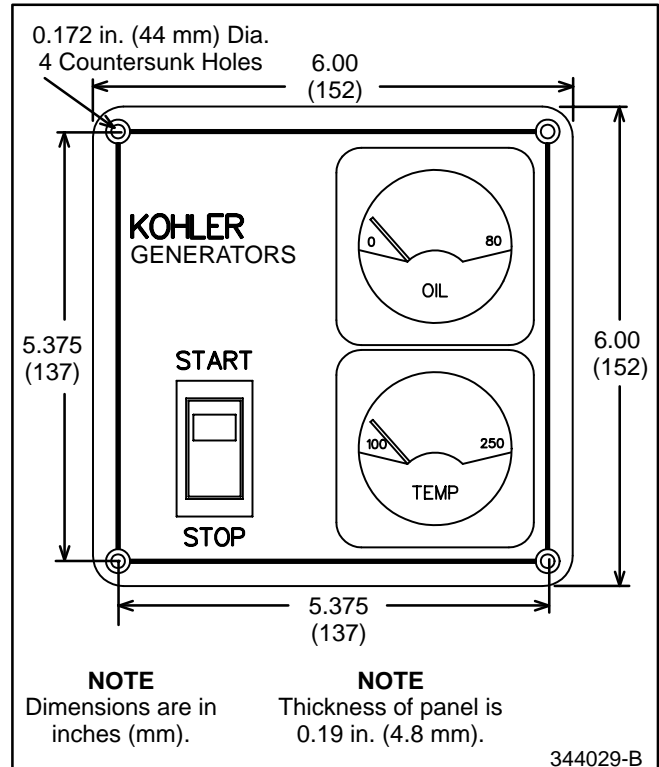
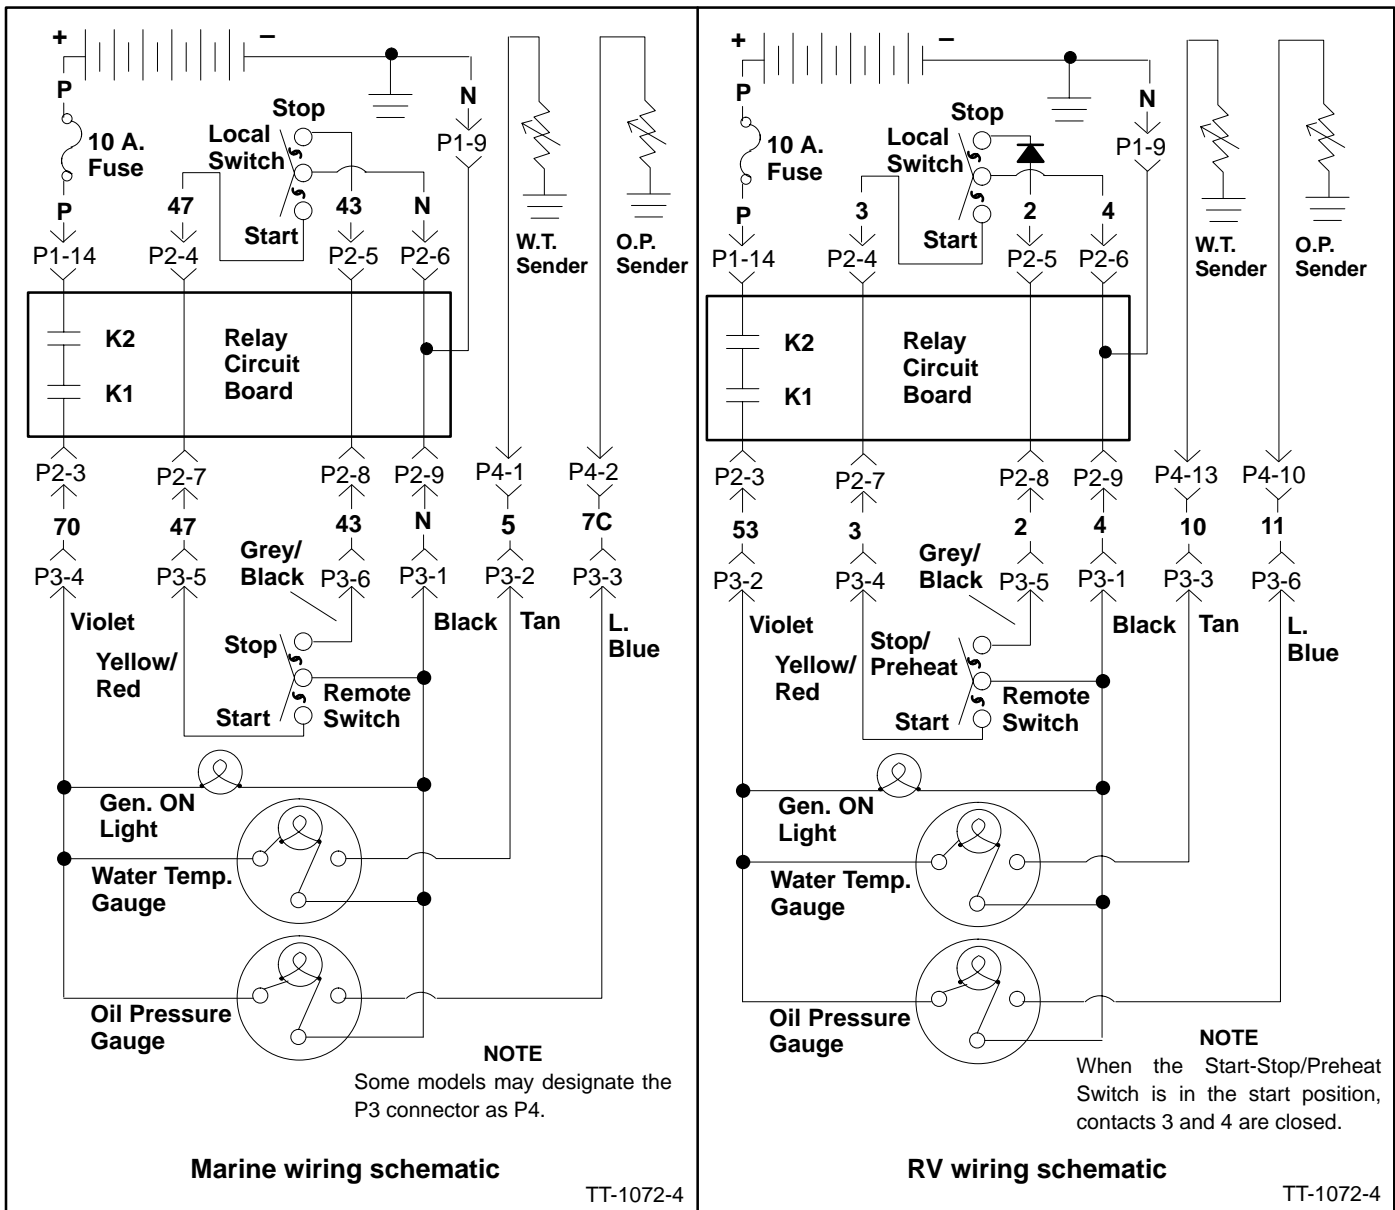

Figure 2. Meter Panel Dimensions
Figure 4. Typical Electrical Connections
3. Determine where in the vehicle/wheelhouse or bridge to mount the panel. The length of the wiring harness and the size of the panel (including mounting depth), limits this decision. See Figure 2 for dimensions. Allow a minimum of 2 3/4 in. (70 mm) mounting clearance behind the panel. See Figure 4 for the panel assembly wiring.